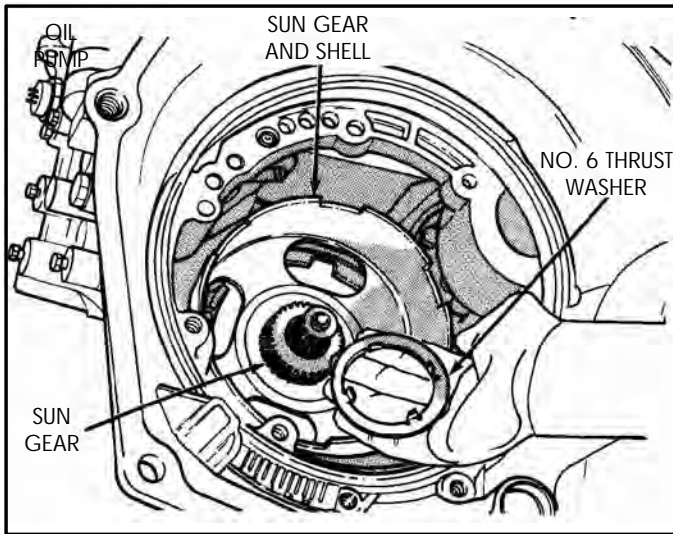

Figure 50
30. Remove the number 6 thrust washer from the transaxle, as shown in Figure 50.